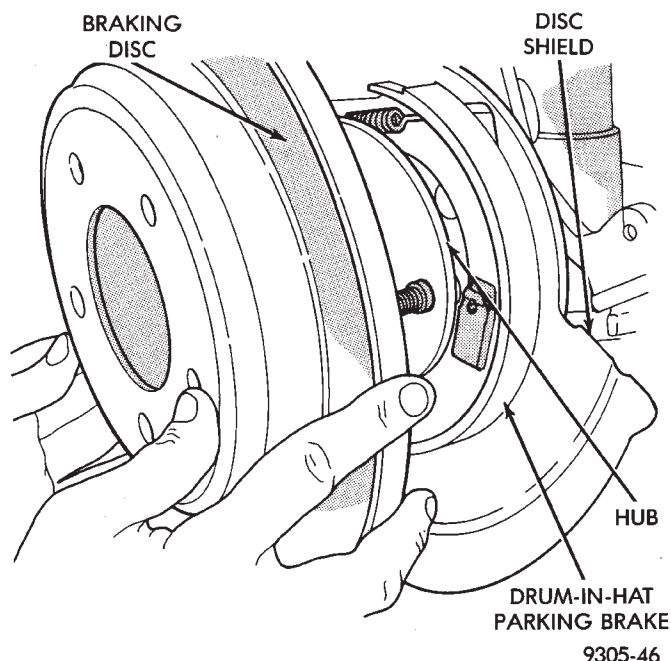

Fig. 49 Removing / Installing Rear Rotor
(6) Remove the rear rotor from hub by pulling it straight off the wheel mounting studs (Fig. 49).
(1) Completely retract caliper piston back into piston bore of caliper assembly.
(2) Lubricate both adapter abutments with a liberal amount of Mopar® Multipurpose Lubricant, or equivalent.
(3) Install the rear rotor on the hub, making sure it is squarely seated on the face of the hub (Fig. 49).